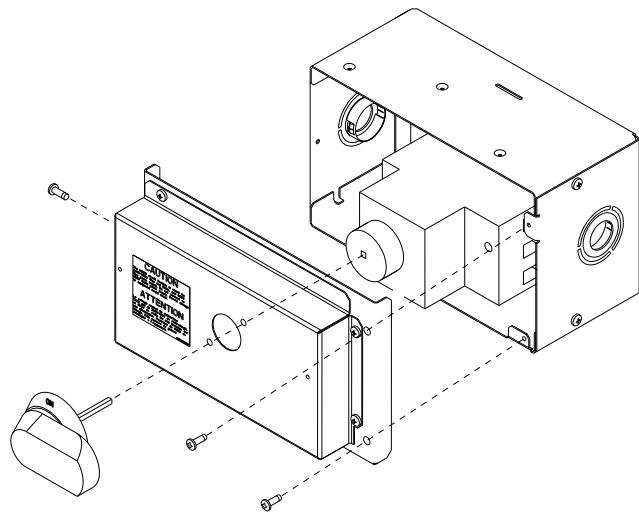

Fig. 31 — HACR Handle and Shaft Assembly
2. Remove (3) cap head screws that secure the HACR enclosure — (2) on the face of the cover and (1) on the left side cover. See Fig. 31.
5. Insert the shaft all the way with the cross pin on the top of the shaft in the horizontal position. See Fig. 31.
9. Secure the handle to the painted cover with (2) screws and lock washers supplied.
10. Engaging the shaft into the handle socket, re-install (3) hex screws on the HACR enclosure.